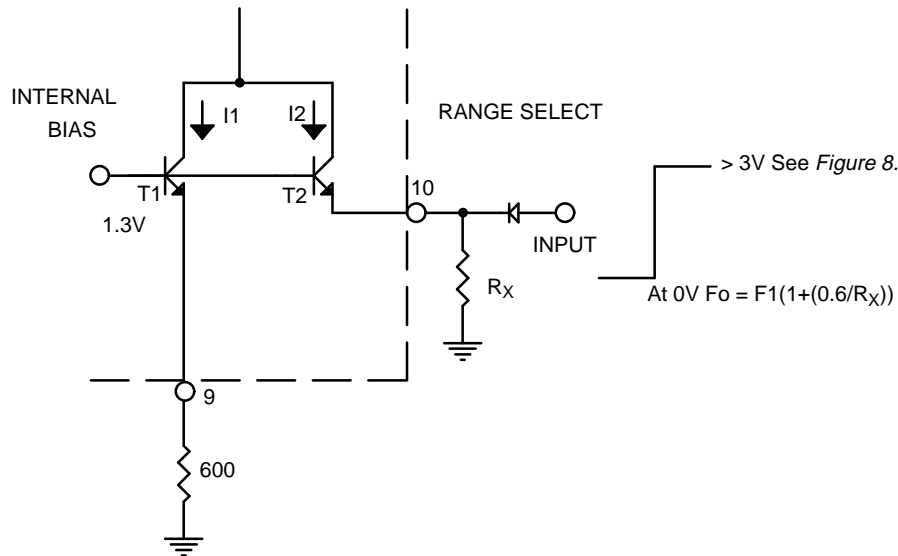

Figure 12. Explanation of VCO Range-Select Controls
The frequency range of the XR-215 can be extended by connecting an external resistor,  $R_X$ , between pins 9 and 10. With reference to Figure 12., the operation of the range-select terminal can be explained as follows: The VCO frequency is proportional to the sum of currents  $I_1$  and  $I_2$  through transistors  $T_1$  and  $T_2$  on the monolithic chip. These transistors are biased from a fixed internal reference. The current  $I_1$  is set internally, whereas  $I_2$  is set by the external resistor  $R_X$ . Thus, at any  $C_0$  setting, the VCO frequency can be expressed as:
Using the range select control, the VCO frequency can be stepped in a binary manner, by applying a logic signal to pin 10, as shown in Figure 12. For high level logic inputs, transistor  $T_2$  is turned off, and  $R_X$  is effectively switched out of the circuit. Using the digital programming capability, the XR-215 can be time-multiplexed between two separate input frequencies, as shown in Figure 19. and Figure 20.
**Note:** For 300 Baud operation the circuit can be time-multiplexed between high and low bands by switching the external resistor  $R_X$  in and out of the circuit with a control signal, as shown in Figure 12.